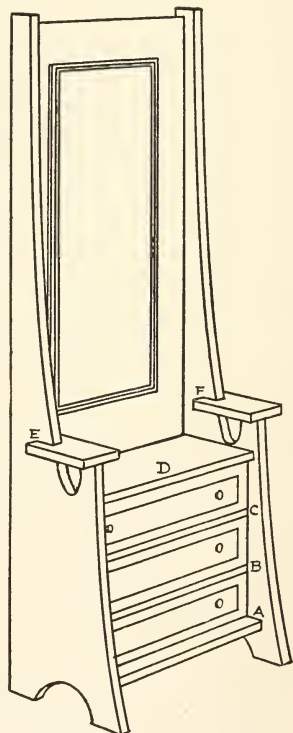

FIG. 277. — A Dresser.
**The Dresser** (Fig. 277) is made somewhat similar to the side-board. Cut the sides by the same pattern (Fig. 262) and fasten them to the edges of the back piece, which should be six and one-half inches high by three inches wide. Cut shelf *A* three by one and one-quarter inches, *B* and *C* three by one and one-eighth, *D* three by one and three-sixteenths, and *E* and *F* one-half by one and one-quarter inches. Fasten shelf *A* between the sides at line No. 24 (see Fig. 262), *B* at line No. 23, *C* at line No. 22, *D* at line No. 21, and notch the ends of *E* and *F* to fit over the side pieces at line No. 20.